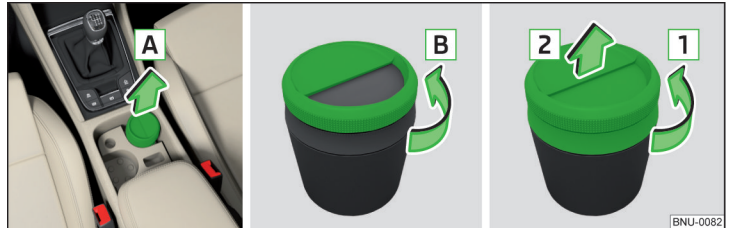

Fig. 130 Removing/opening/disassembling the ashtray
- **Remove** the ashtray in the direction of the arrow **A** » Fig. 130. To **insert**, proceed in reverse order.